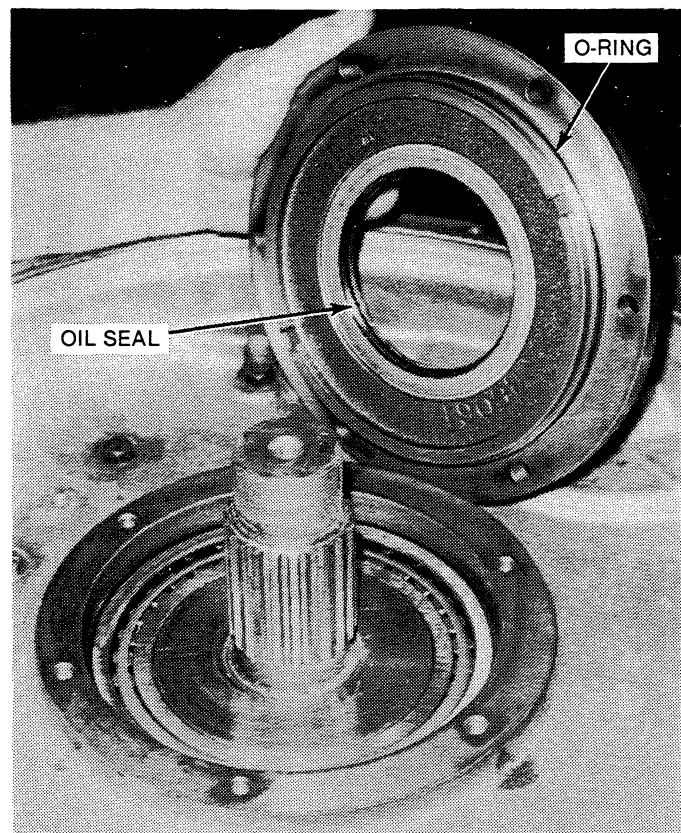

Figure 6-31. Bearing Retainer Removed.
2. Remove O-ring (Figure 12-2, 51) from the O.D. and oil seal (48) from the bore of the bearing retainer. See Figure 6-31.